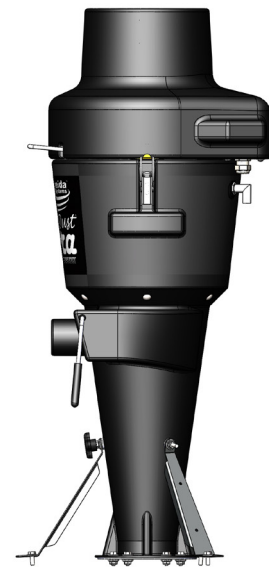

FIG. 14
- 13** Align the Nylon Elbow (F2) on the cone with the Quick Disconnect Fitting (I) on the drum (D) [FIG 14.] Attach the fully assembled unit onto the Drum with Lid Clamp (D).